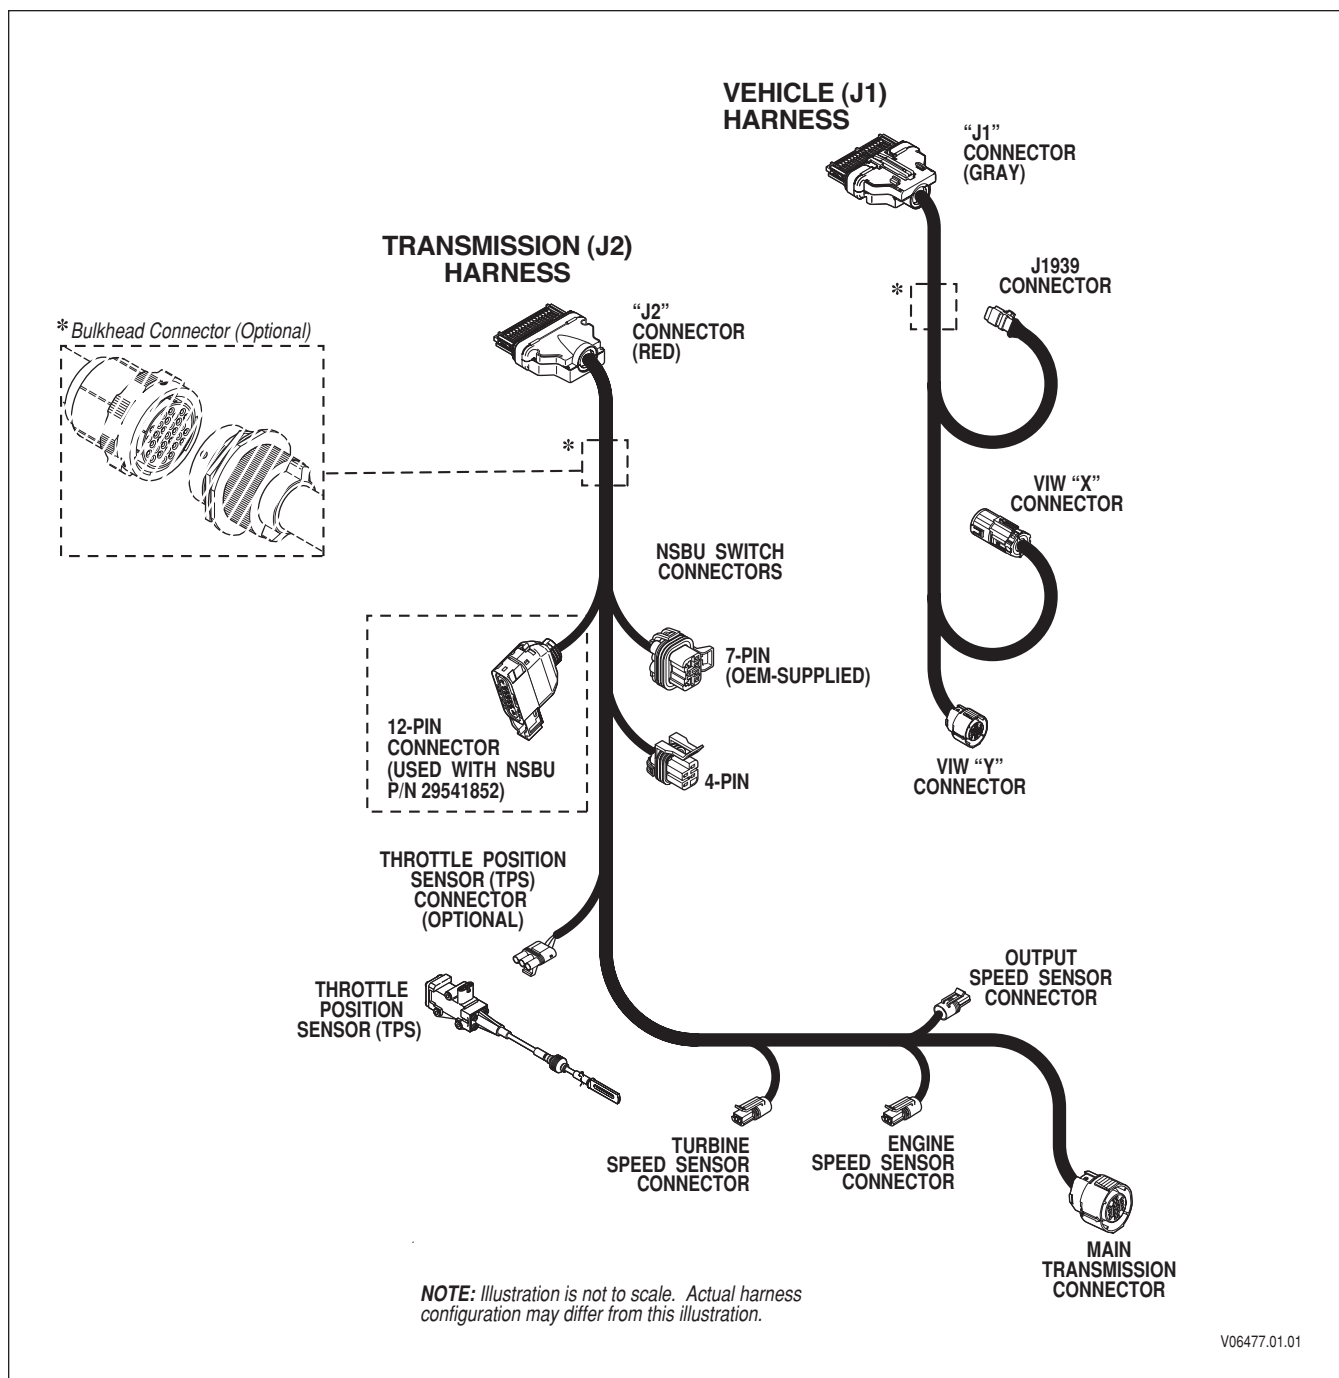

Figure 1-10. Typical External Wiring Harnesses
A. External Wiring Harness (Figure 1-10)